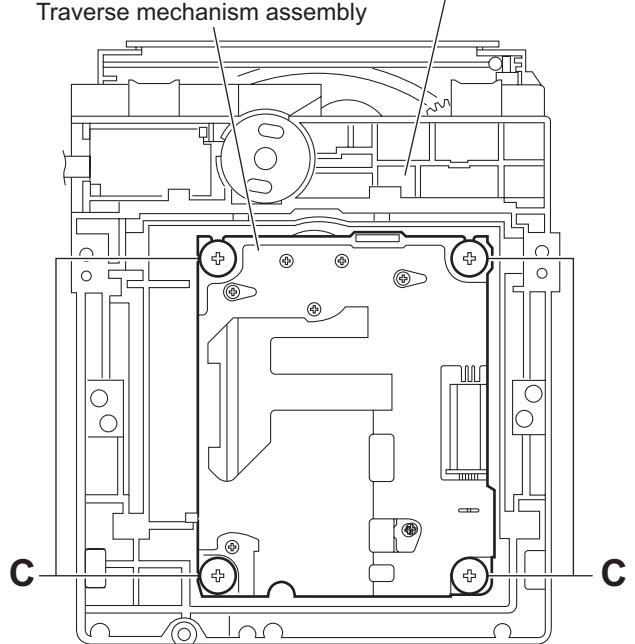

Fig.3
- (3) Remove the four screws **C** attaching the traverse mechanism. (See Fig.3)